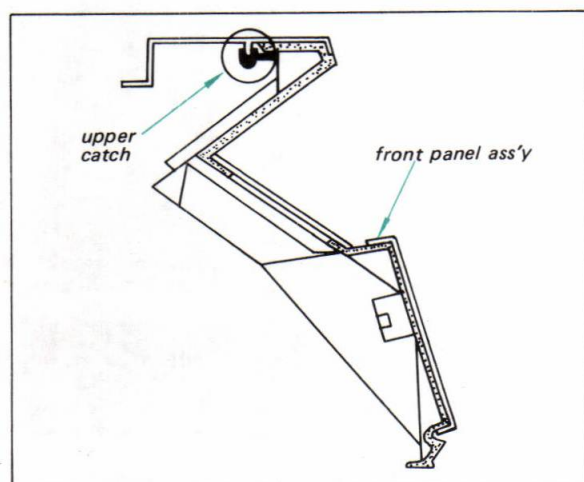
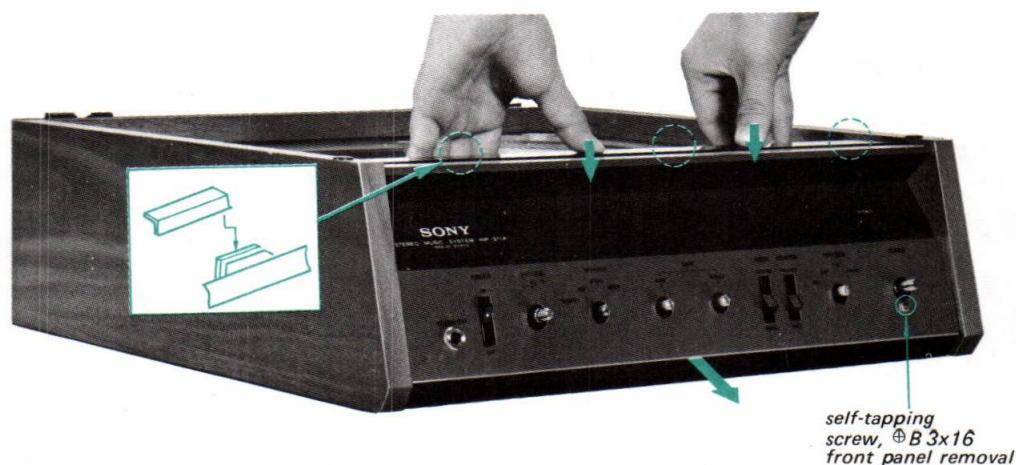

Fig. 2-4. Cross sectional view of front panel
Fig. 2-5. Front panel removal
4. Remove the one self-tapping screw securing the front panel to the front subchassis as shown in Fig. 2-5.
5. Refer to cross sectional view Fig. 2-4, press the top of the front panel as shown in Fig. 2-5.